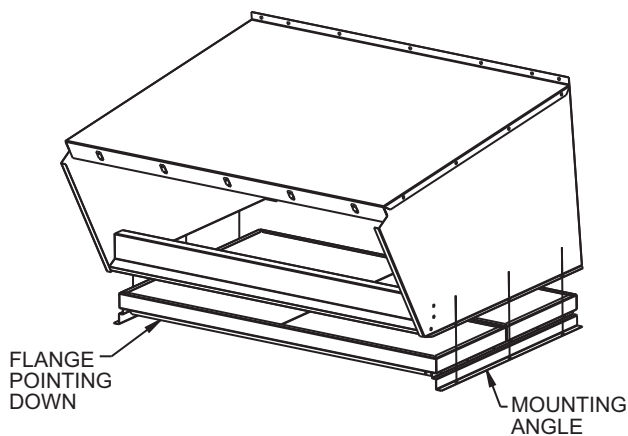

Fig. 38 — Bottom Filters Installed with Flange Pointing Down
12. Attach filter track under the hood assembly. See Fig. 38.